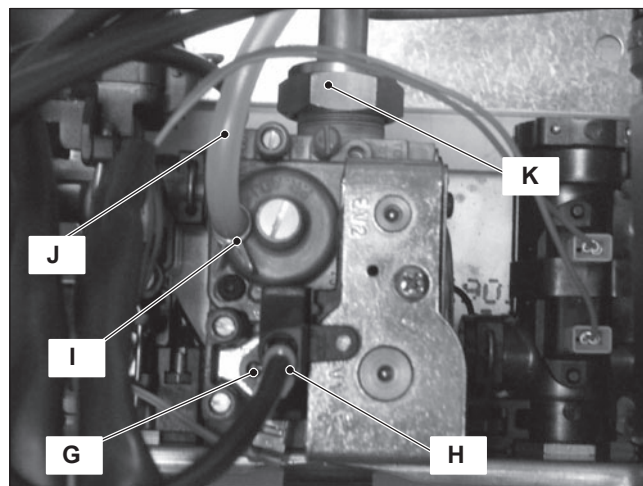
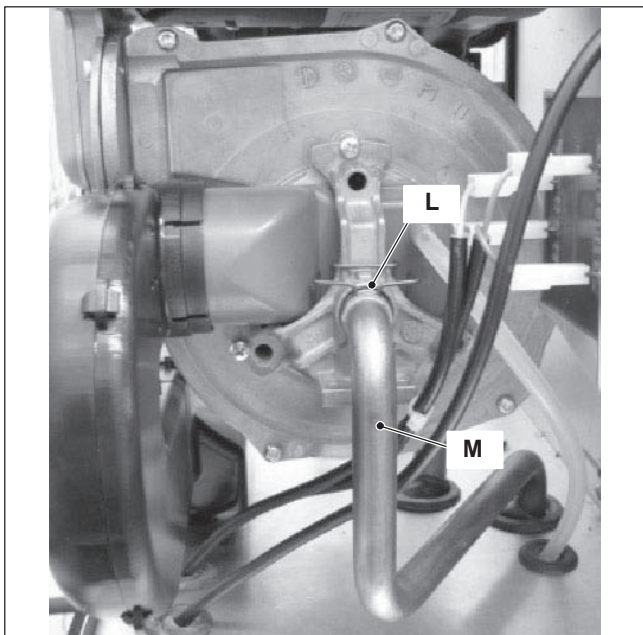

Figure 11.8
Figure 11.9
- 2 Remove the screw G and disconnect the connector H (Figure 11.8).
- 4 Using pliers, remove the spring I and the rubber pipe J (Figure 11.8).
- 5 Unscrew the connector K (Figure 11.8), remove the fixing fork L and remove the pipe M (Figure 11.9).